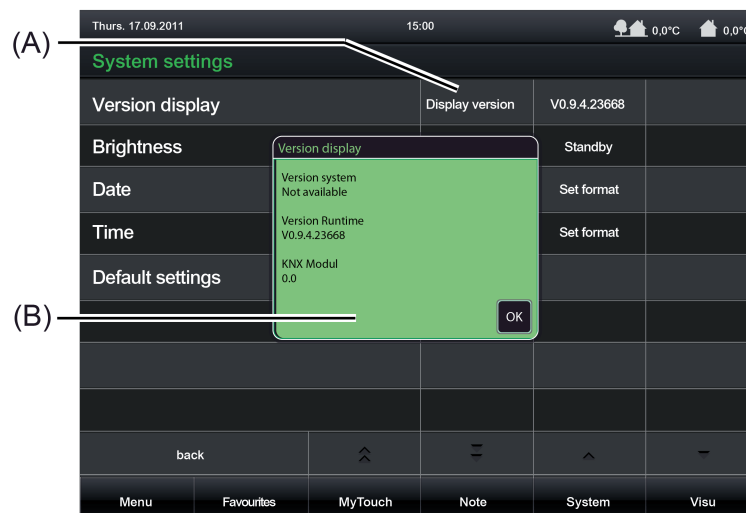

Figure 38: Menu for displaying the system information
In the submenu "System settings", general system information can be displayed (Figure 38). These can be important, for example, during device support. After pressing the sensor surface "Display version" (A), a dialog window (B) will open with the system information in text form. The name of the operating element (e.g. "Version display") can be predefined in the configuration software. The dialog window will close after pressing the "OK" button.